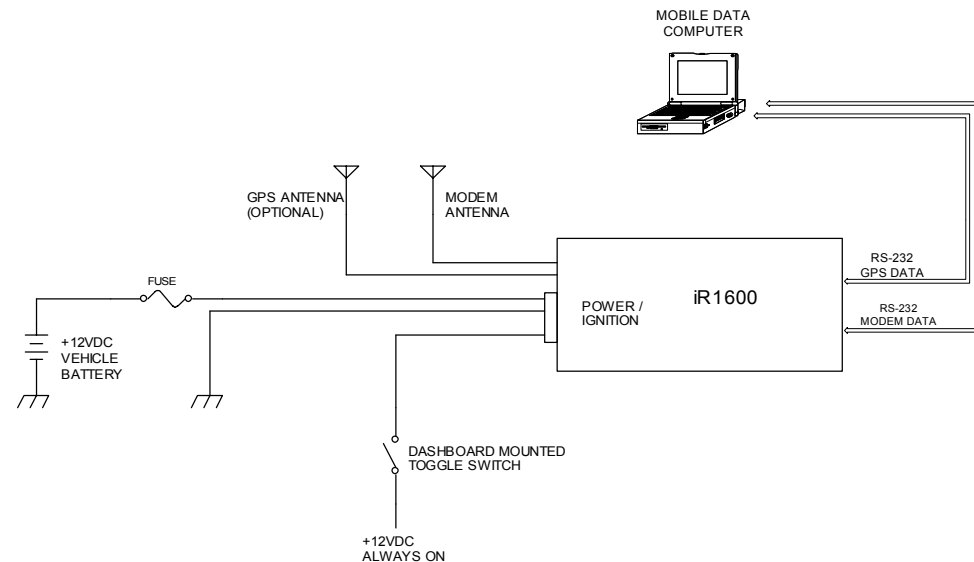

Figure 9 – Continuous Power Configuration
9. Connect the free end of the ignition wire to a fused, continuously energized +12VDC circuit through a user-supplied SPST toggle switch (see Figure 9 on page 35). This switch shall be rated for a minimum of 20Vdc at a current of 5mA.